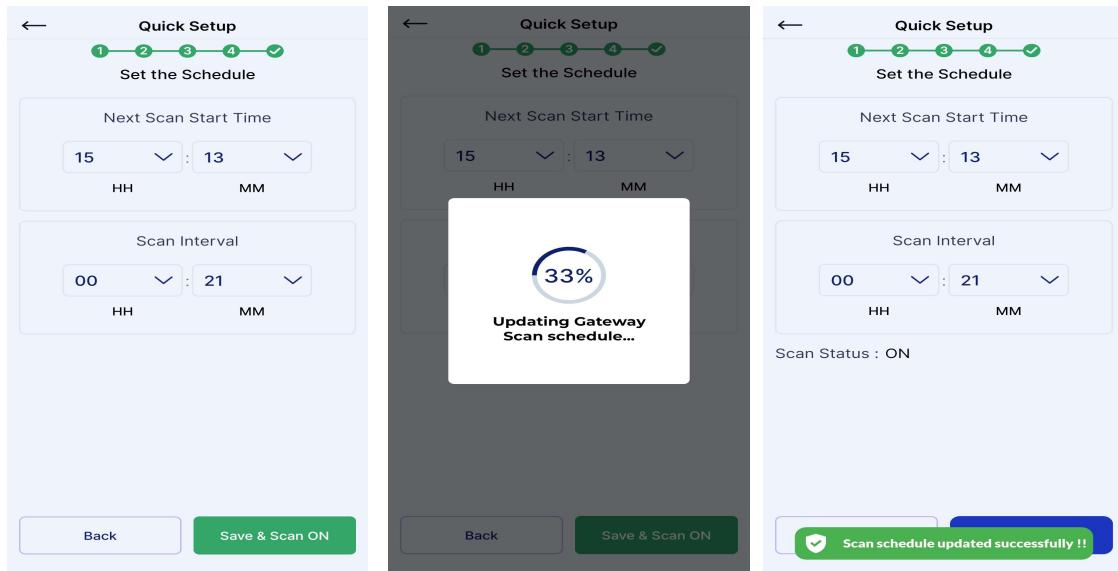

Figure 5-11
Step 5: Set the Schedule (As shown in Figure 5-11)